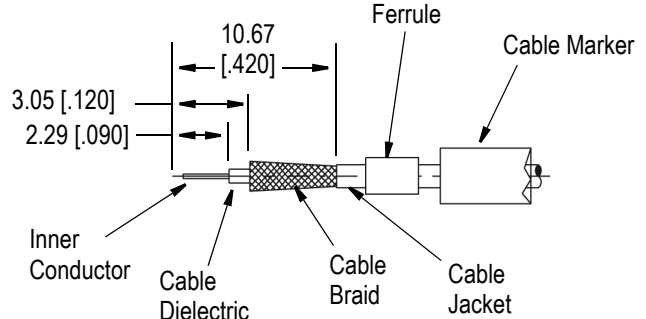

Figure 2
2. Strip and trim the cable to the dimensions shown in Figure 2.